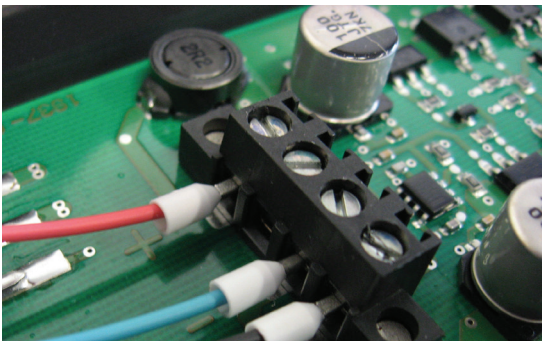

Fig. 11: Connector X1
- o Remove the three leads on Connector X1 (fig. 11), the six leads on connector X2 (fig. 12) and the shield connection to the heatsink (fig. 12).
- o Connect the new electronics module (colors as in fig. 11 and 12). Mounting torque for the earth connection screw is 0.55 N·m; mounting torque for the terminal screws (3 and 6 leads) is 0.5 N·m.